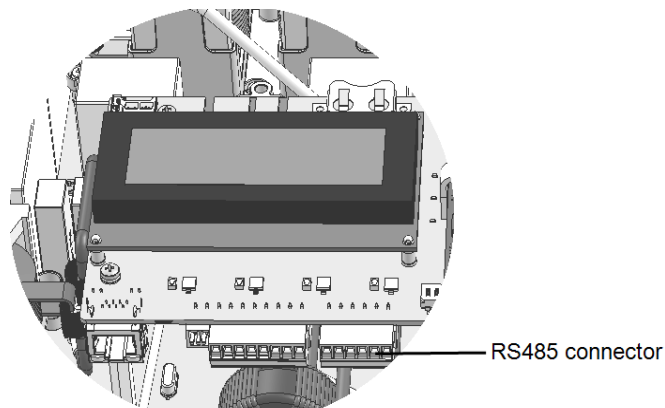

Figure 2: RS485 Connection in the inverter
- If RS485 connection is already installed in the inverter, disconnect the 6-pin connector from the RS485 socket on the inverter communication board (see Figure 2), leaving the RS485 wires intact.